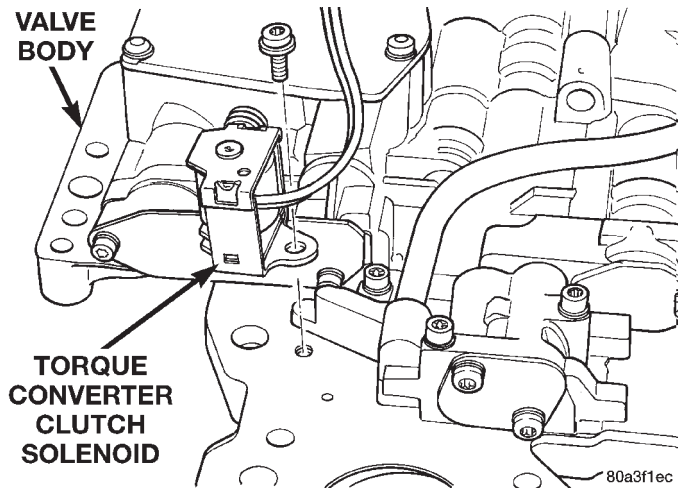

Fig. 66 Converter Clutch Solenoid
(36) If necessary, install a new O-ring on converter clutch solenoid (Fig. 66).
(37) Insert converter clutch solenoid into transfer plate (Fig. 66).
(38) Install screw to attach solenoid to transfer plate (Fig. 66).